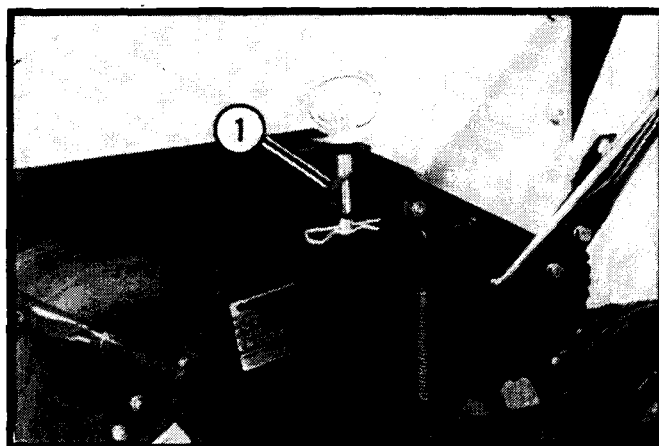

Figure 21
6. Holding the hitch end of the tote trailer push it to the aerator. Tip the trailer back and center the Lawnaire V between the mounting masts. Align the holes on the mounting masts with the hole in the center of the Lawnaire V frame (where weight bar was located). Once holes are aligned, slide the locking shaft through from the right side. Secure shaft with the locking pins (See Figure 21).